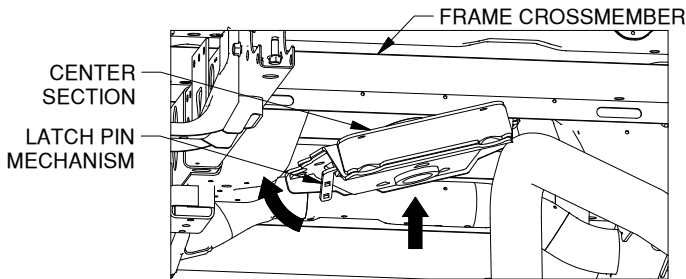

Figure B5: Looking from rear towards cab.
3. **Install the center section.** With the latch pin mechanism on the driver side, raise the center section into place as shown, see figure B5. In order to clear structures under the truck bed, the center will have to be lifted into place on an angle over the exhaust, then positioned directly under the frame cross member so that the raised portion of the center can be pushed straight up through the hole in the frame cross member, and through the hole in the plastic spacer block. Having assistance in the bed to guide the top of the center section is recommended. Line the 6 holes in the center section up with the frame holes and the holes in the threaded blocks. Thread a 5/8 flange head bolt into each hole. Next, run the bolts in until they are about 1/16" from being tight.